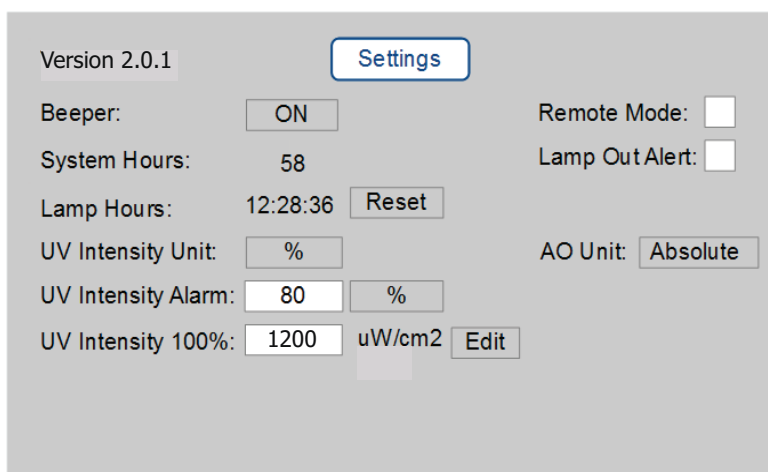

Figure 15 Settings Screen
3. Press the 'ENTER' button on the keypad to open the Settings Screen (Figure 15).